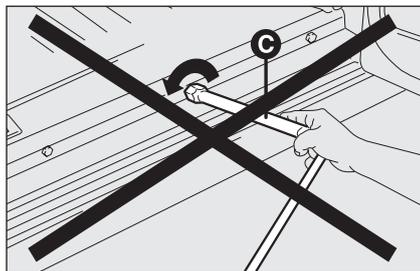
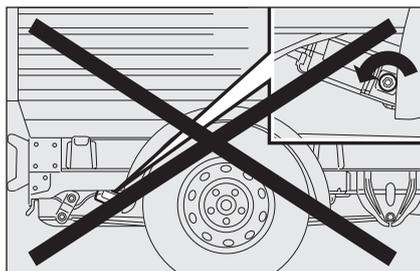

fig. 9a
fig. 9b
*on both van fig. 9a and cab fig. 9b versions, at the end of the operation of raising/locking the spare wheel, the key must be extracted, taking care not to turn it in the wrong direction when trying to facilitate the extraction of the actual key, to prevent the attachment device from released and the wheel assembly not being securely retained.*